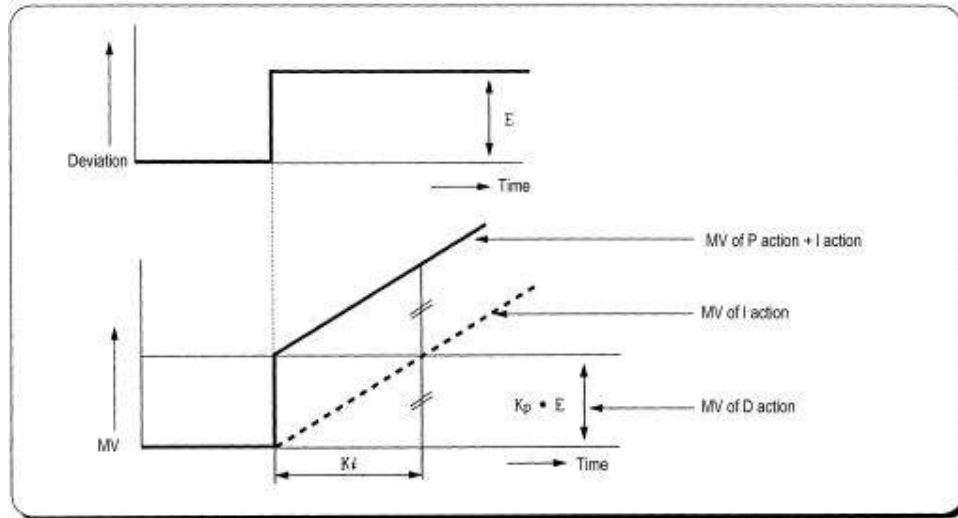

Fig. 2.4 The integral action with constant deviation
- (b) Integral action when a constant deviation has occurred is shown as the following Fig. 2.4.